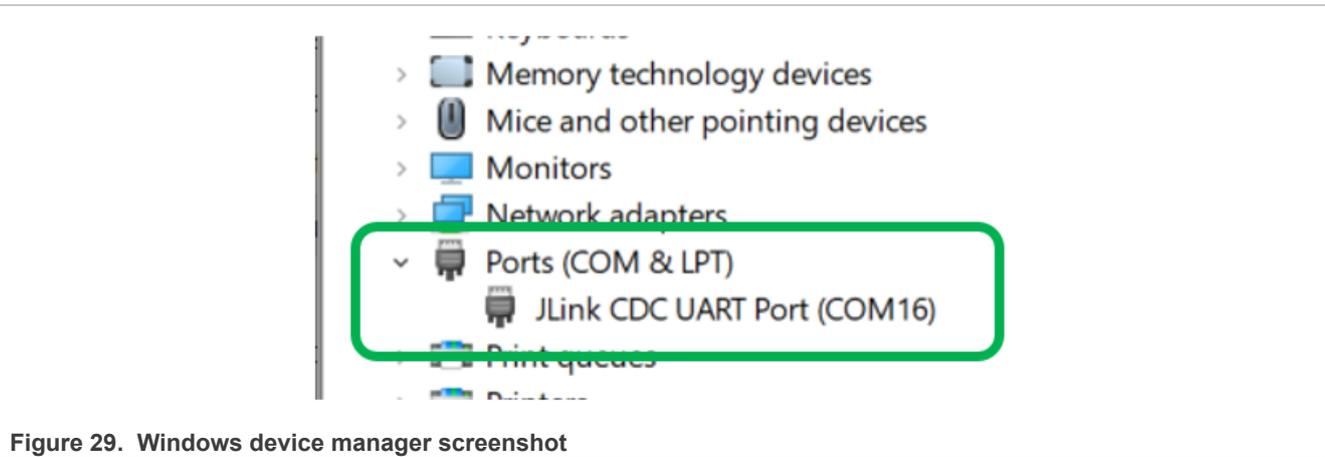

Figure 29. Windows device manager screenshot
- Go to "Device Manager" and check the COM port number under "Ports (COM & LPT)". It must look similar to Figure 29.